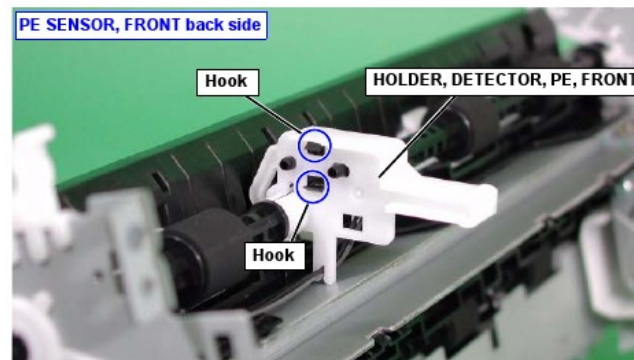

Figure 4-45. PE SENSOR, FRONT Removal 1
2. Use tweezers to release and remove 2 hooks securing the PE SENSOR, FRONT to the HOLDER, DETECTOR, PE, FRONT. (Refer to Figure 4-45.)